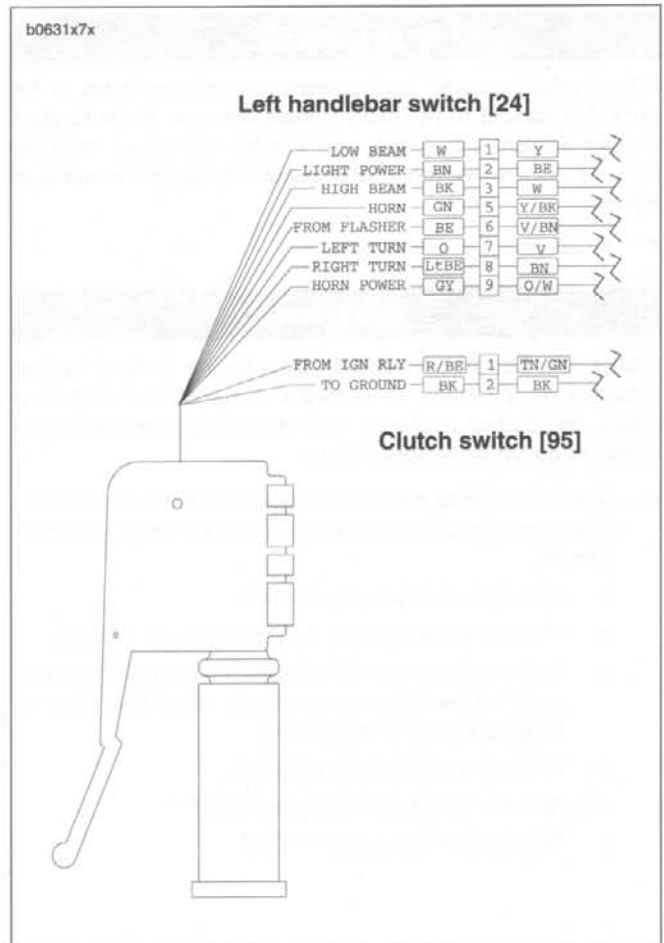

Figure 7-54. Left Handlebar Switch Connection
5. See Figure 7-54. Cut as many cable straps as necessary to access left handlebar switch connector [24] along right side frame tube. Detach connector [24] from wiring harness.